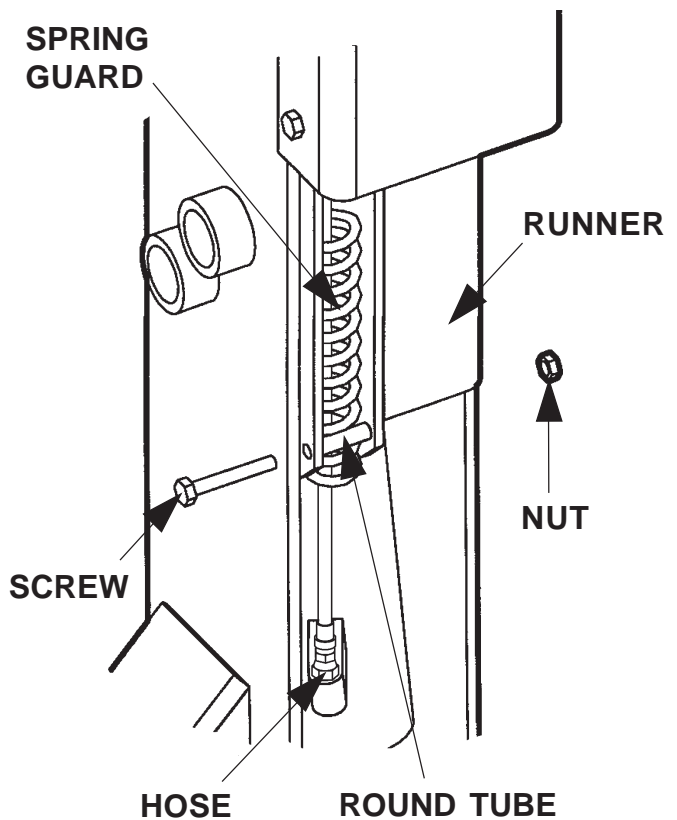

FIG. 10A
8. Disconnect hydraulic hose from Closing Cylinder (**FIG. 10A**). Use drain pan to collect hydraulic fluid from hose.
9. Pull Spring Guard, Flexible Cable (with Adapter), and hydraulic hose away from the channel at bottom of Runner (**FIG. 10A**).